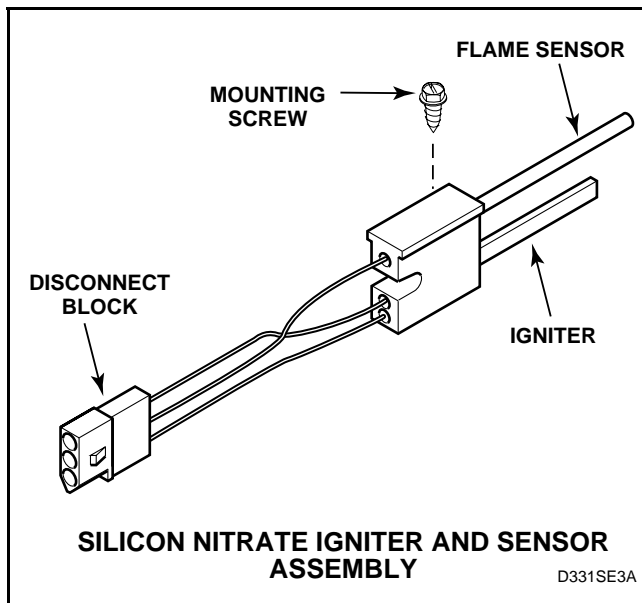

Figure 46
- Put first meter probe on terminal of flame sensor wire and second meter probe on terminal 2 of disconnect block. See *Figure 46*.
- Set test meter to read Ohms and put meter probes on terminals 1 and 3 of igniter disconnect block. See *Figure 46*.